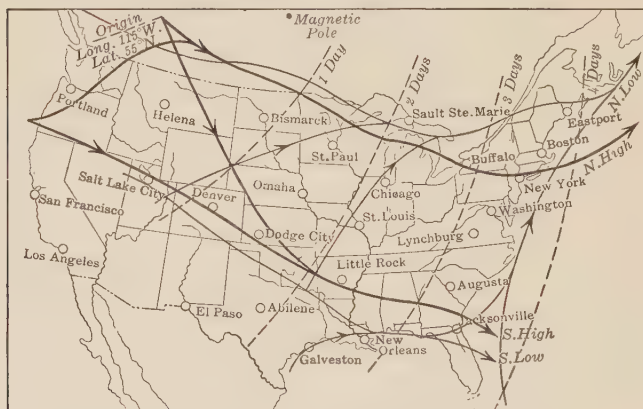

FIG. 56. — Storm tracks across the United States.
68. Storms. Storms may be local, as the thunder storm and tornado, or widespread, as the more common cyclonic storm, which usually covers an area of several hundred miles. Cyclonic storms move across the continent from west to east, usually traveling a little toward the south in the Central United States, and working back toward the north in the East, see Fig. 56. Our cyclonic storms therefore leave the United States in a northeasterly direction. The center of